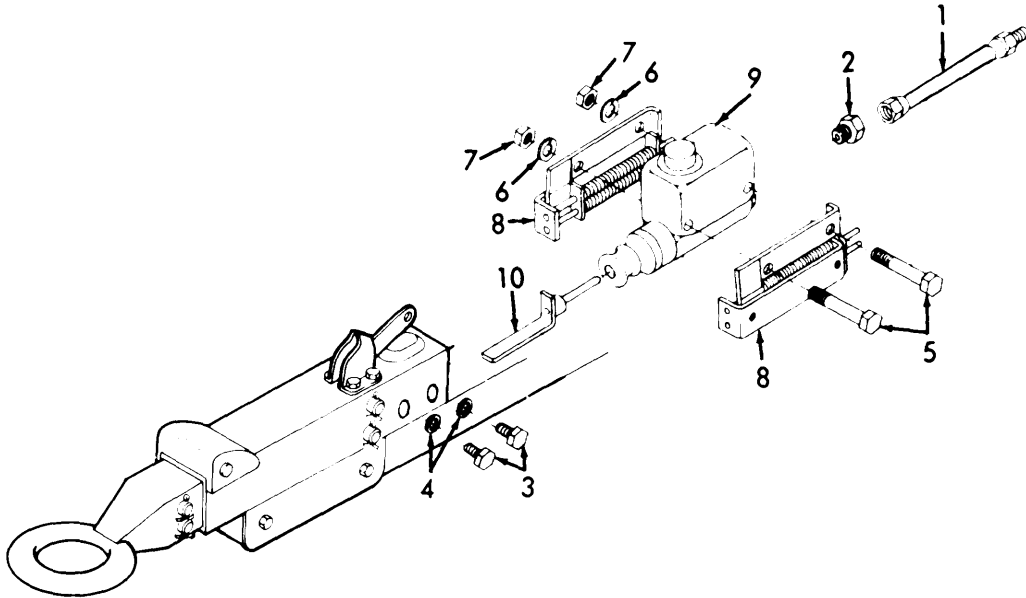

Figure 3-49. Master Cylinder, Installation.
- (1) Install pushrod assembly (10, Figure 3-49) onto master cylinder assembly (9).
- (2) Install two bracket assemblies (8) with two nuts (7), two washers (6), and two bolts (5).
- (3) Install master cylinder assembly (9) and secure with four washers (4) and four bolts (3).
- (4) Connect hydraulic tube (1) to fitting (2).
- (5) Bleed hydraulic system in accordance with paragraph 3-29f.